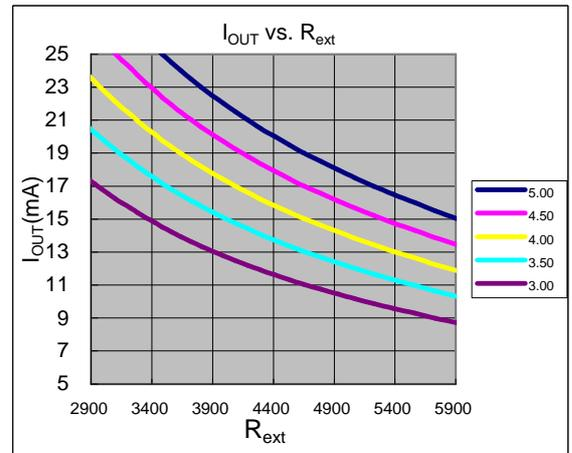

Fig. 4 I_{OUT} vs. R_{ext} at V_{DD}= 5V, 4.5V, 4.0V, 3.5V and 3.0V
** I_{OUT} vs. R_{ext} @ different power supply is shown in Fig. 4.
Also, users can choose a suitable value of R_{ext} via the above equation when I_{OUT} is known. A typical operating characteristic of I_{OUT} vs. R_{ext} is shown in Fig. 4.